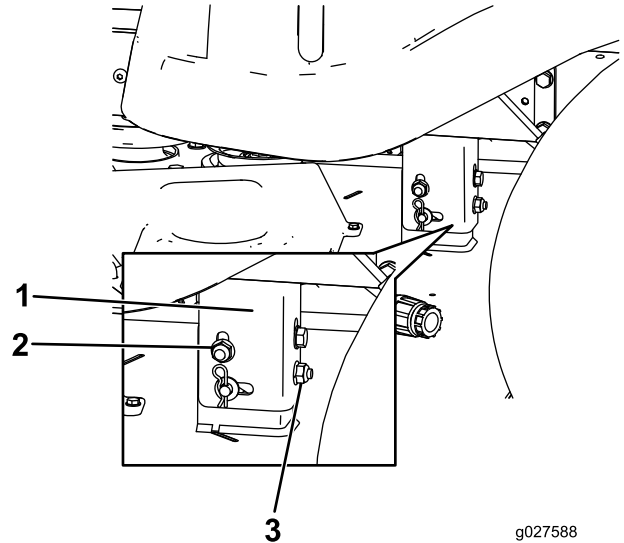

Figure 49
8. Raise or lower the left side of the mower deck by rotating the rear nut (Figure 49).